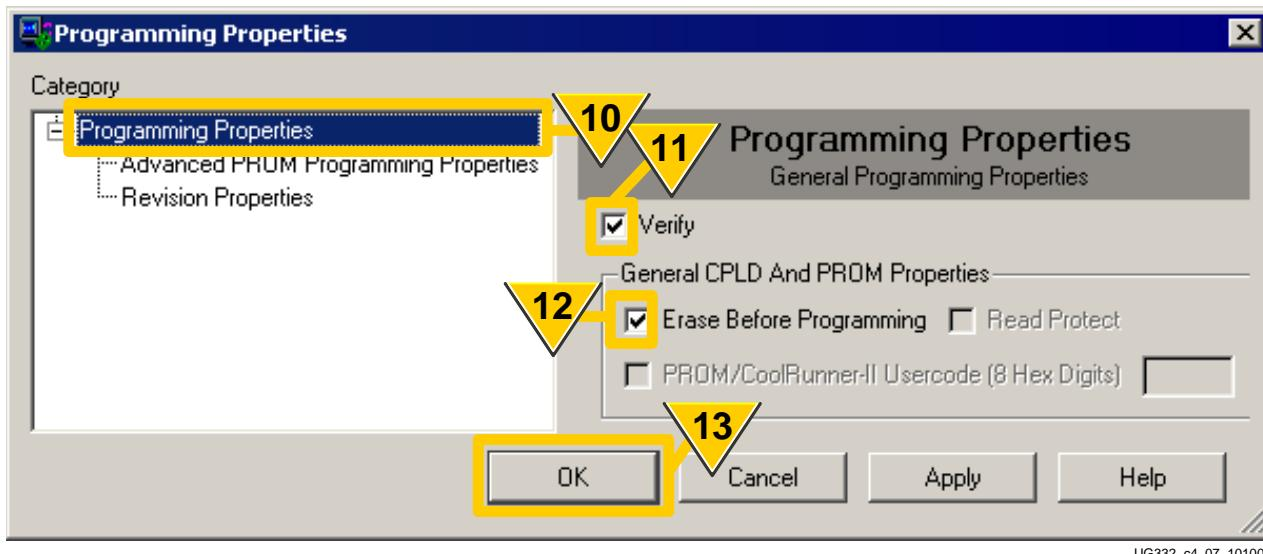

Figure 12-10: SPI PROM Programming Options
10. Click the Programming Properties option under Category, as shown in Figure 12-10.